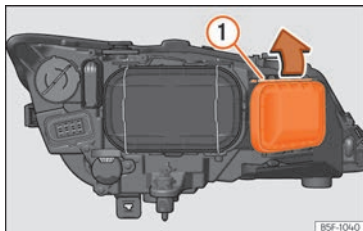

Fig. 109 Turn signal bulb.
- Move the loop »» Fig. 109 ① in the direction of the arrow and remove the cover.